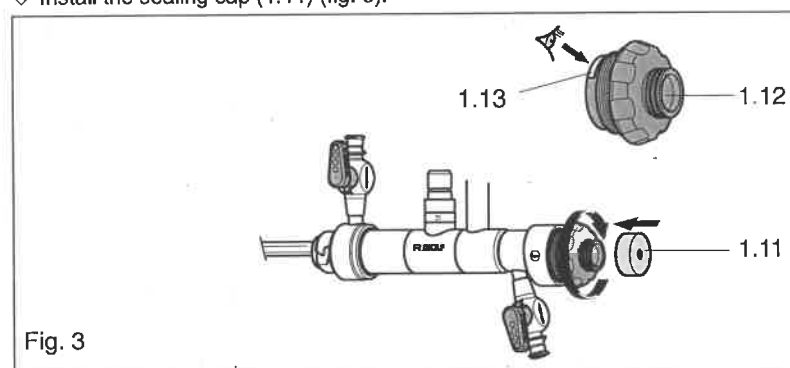

Fig. 3
- ◇ Unscrew the sealing element (1.12) and check that a membrane valve (1.13) is installed (fig. 3).
- ◇ Screw the sealing element (1.12) back on tightly (fig. 3).
- ◇ Install the sealing cap (1.11) (fig. 3).